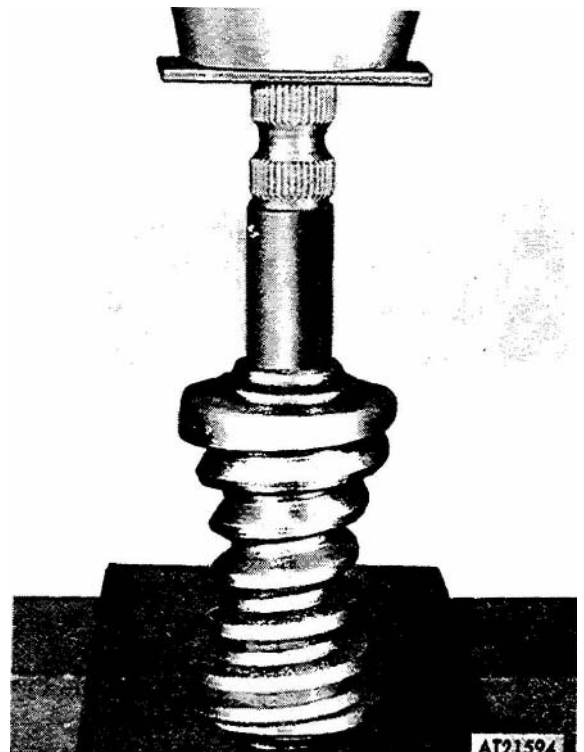

Figure 3-221. Pressing shaft into worm gear,
(3) Press shaft (7, fig 3-212) into worm gear (8) as shown in figure 3-221.